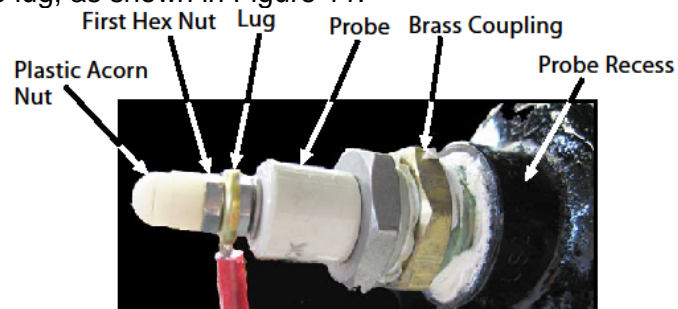

Figure 11. LWCO Capacitor Kit – Hardware Callouts on Old Probe
1. From the end of the LWCO probe, unscrew the plastic acorn nut and first hex nut, then remove the wire lug, as shown in Figure 11.